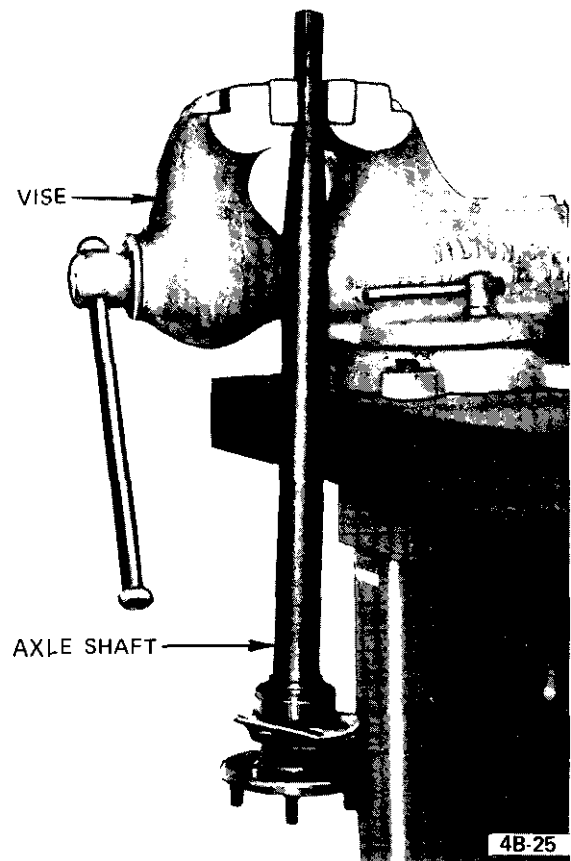

Figure 4B-25 Axle Shaft Installed in Vise
a. Install axle shaft into a vise and position differential case onto axle shaft. See Figure 4B-25.
b. Insert Special Tool J-24093 into opposite side gear, attach a torque wrench, and check torque to rotate gear. See Figure 4B-26. Permissible torque to turn gears is 14 1/2 to 17 1/2 footpounds.